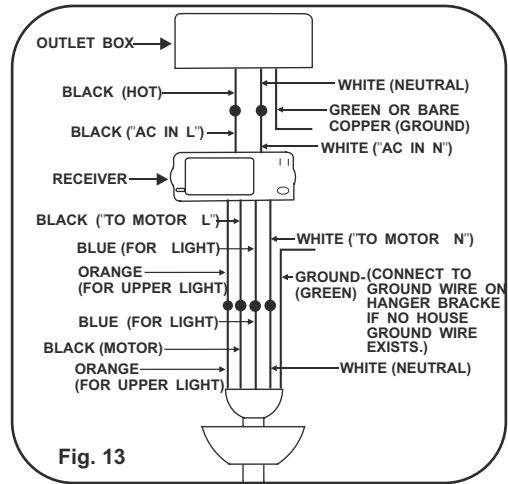

Fig. 13
NOTE: If your ceiling fan features an UP Light: Connect the ORANGE wire from the fan to the ORANGE wire marked "For Up Light" from the Receiver. Otherwise disregard this step and proceed to secure all wire connections with the plastic wire nuts provided. (Fig.13)
Step 3. Receiver to House Supply Wires Electrical connections: Connect the **WHITE** wire (Neutral) from the outlet box to the **WHITE** wire marked "AC in N" from the receiver. Connect the **BLACK** wire (Hot) from the outlet box to the **BLACK** wire marked "AC in L" from the receiver. Secure all wire connections with the plastic wire nuts provided. (Fig. 13)
Step 4. If your outlet box has a **GROUND** wire (Green or Bare Copper) connect this wire to the Hanger Ball and Hanger Bracket Ground wires. If your outlet box does not have a Ground Wire, then connect the Hanger Ball and Hanger Bracket Ground Wire together. Secure wire connection with the plastic wire nut provided. (Fig. 13)